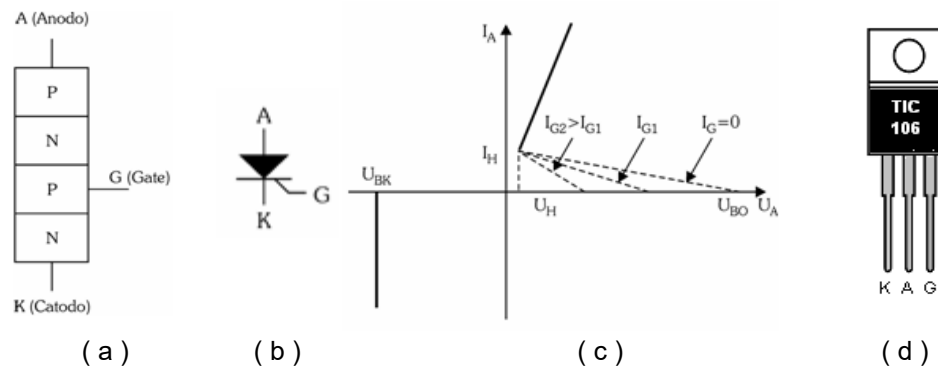

Figure 1 – SCR (a) physical structure (b) symbol (c) characteristic curve (d) physical appearance
The SCR or Silicon Controlled Rectifier is a semiconductor constructed with 4 alternating layers (PNPN) and with three terminals: Anode (A), Cathode (K) and Gate (G). Figure 1 shows the simplified physical aspect, the symbol and the characteristic curve.